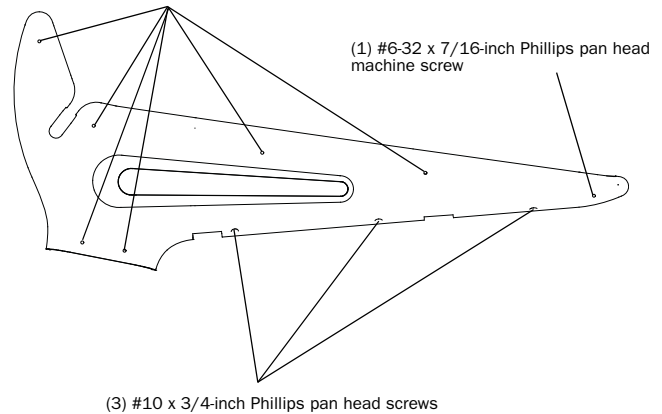

Figure 32. Attaching the plastic side caps
**4** Attach each plastic side cap with the screws indicated in Figure 32. Leave the screws loose until you have placed all of the screws, then go back and tighten all of the screws carefully.